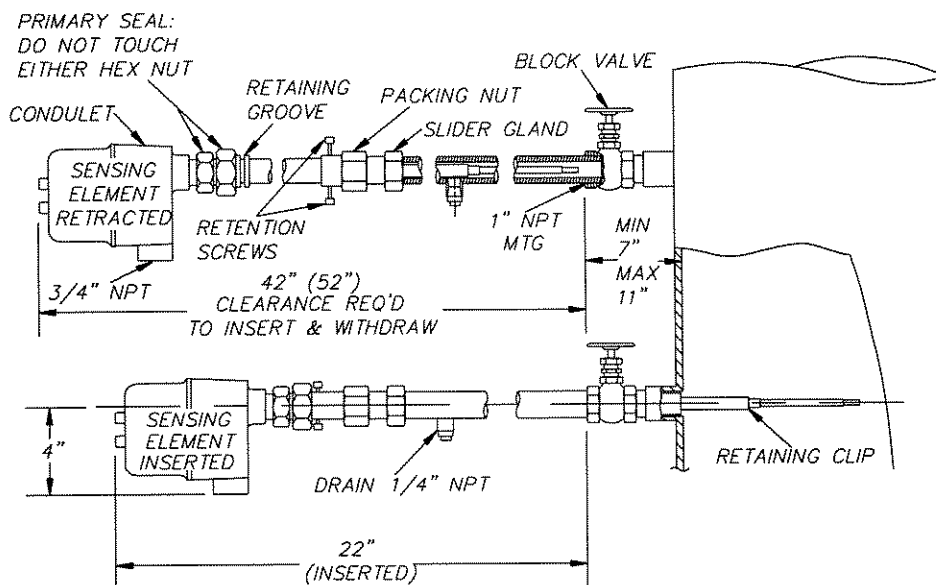

Figure 2-1
- L. Mounting Dimensions: 1" NPT. Maximum valve & nipple length is 11". (See Figure 2-1).
The actual mounting location depends on the placement of nozzles or openings in the vessel, and the level at which the oil/water interface is to be maintained. **Do Not** mount the sensing element through a valve and nozzle longer than 11 inches. To install the retractable Dumpstar control through a 1 inch block valve, follow the steps below. (See Figure 2-1).